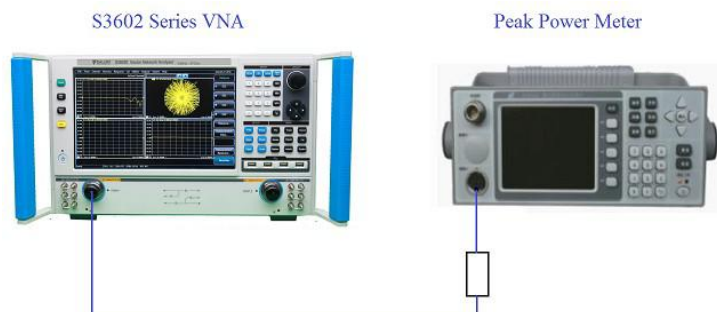

Fig. 11.14 Block Diagram of Test of Pulse Modulation Rising/Falling Time Indicators
- 1) As shown in Fig. 11.14, connect the system. Click [Reset] to set the S3602 vector network analyzer into the initial state. Preheat the instrument for more than 60min.